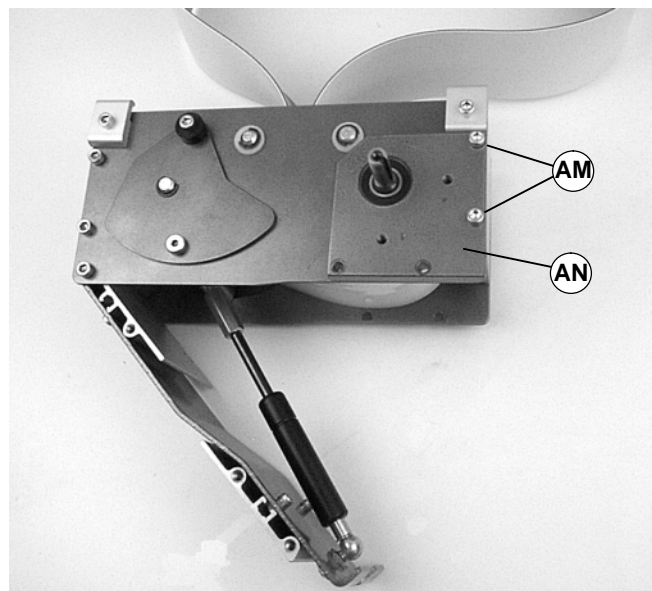
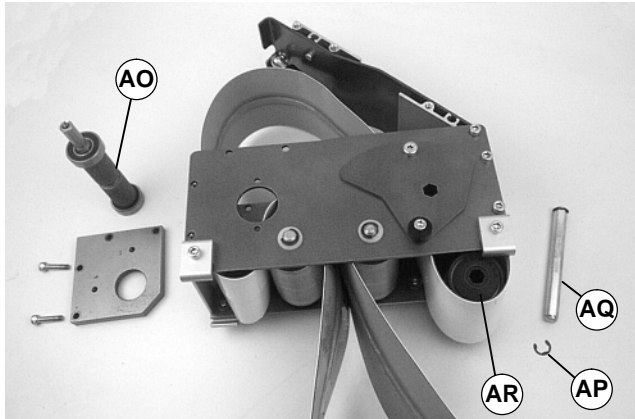
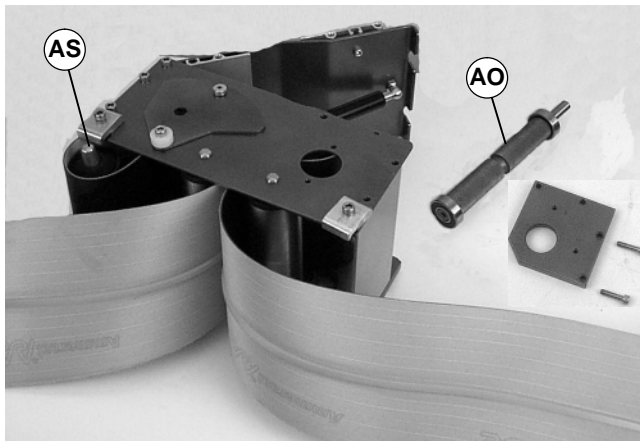

Figure 27
Figure 28
Figure 29
1. Remove two (2) screws (AM of Figure 27). Remove tension drive plate (AN).
2. Remove drive pulley [AO of Figure 28, 44 mm, 70 mm or 95 mm wide conveyor] or [AO of Figure 29, 127 mm or wider conveyor].
- For 44 mm, 70 mm or 95 mm wide conveyor, detach E-ring clip (AP of Figure 28). Remove pulley shaft (AQ) and remove pulley (AR).
- For 127 mm or wider conveyor, depress both sides of spring-loaded shaft and remove pulley (AS of Figure 29).
3. Place grooved idler pulley (AR of Figure 28 or AS of Figure 29) into belt loop and replace in center drive module. Refer to "Belt Removal from Center Drive Module" section and reverse step 3 on page 11.
4. Place drive pulley (AO of Figure 28 or 29) into belt loop and replace in center drive module. Refer to "Belt Removal from Center Drive Module" section and reverse steps 1 and 2 on page 10. Tighten screws (AM of Figure 27) to 9 Nm.